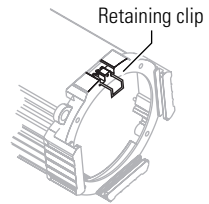

Figure 4
1. Release the retaining clip by pushing it sideways. The retaining clip pops open. See **Figure 4**.